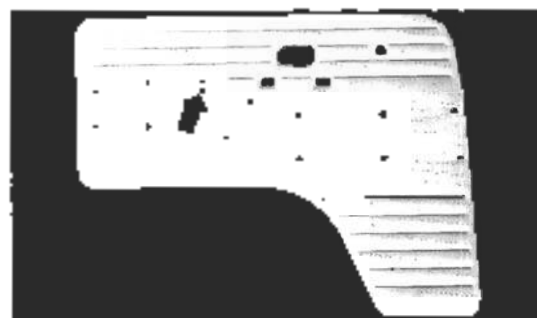

Fig. 5-7
Only the air duct installed on new vehicles since April 1971 (beginning with chassis No. 221 2197 035) is available as a replacement part. If the late duct must be installed on an earlier model, the trim panel must be reworked as indicated in Fig. 5-7. Replacement trim panels already have the correct holes for the new air duct.
**Fig. 5-7.** Trim panel modification. A round hole must be drilled as indicated by the arrow. The other holes have been re-drilled, where necessary, to make possible the installation of the late type air duct.